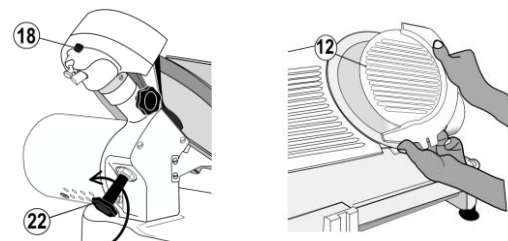

FIG 11. BLADE GUARD PLATE DISASSEMBLING
Turn the dish knob (22) counterclockwise and remove the dish (12). You can use this knob to lightly push the plate. Wash and dry each of the parts (Fig 11).